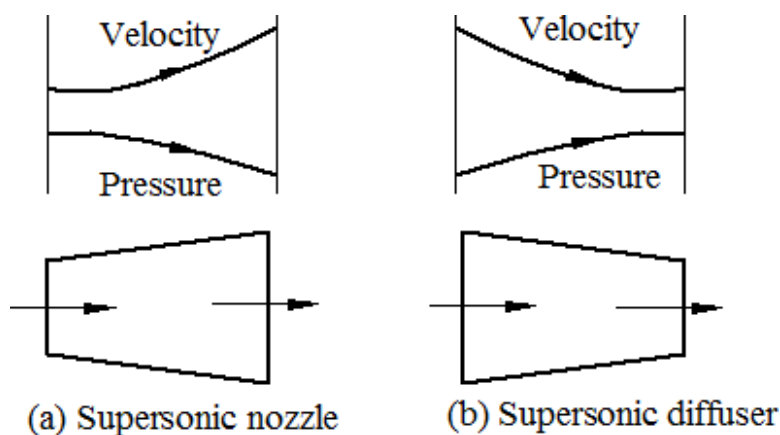

Fig. 2.2 Supersonic nozzle and diffuser
**For supersonic flow ( $M > 1$ )** the quantity  $(\frac{1-M^2}{\gamma M^2})$  is negative. In the nozzle pressure decreases, so the quantity  $\frac{dp}{p}$  is negative; therefore from equation (2.2) the quantity  $\frac{dA}{A}$  is positive and hence area must increase for supersonic nozzle in the direction of fluid flow. The shape of the supersonic nozzle (divergent nozzle) is as shown in figure 2.2.
In the diffuser pressure increases, so the quantity  $\frac{dp}{p}$  is positive; therefore from equation (2.2) the quantity  $\frac{dA}{A}$  is negative and hence area must decrease for supersonic diffuser in the direction of fluid flow. The shape of the supersonic diffuser (convergent diffuser) is as shown in figure 2.2.